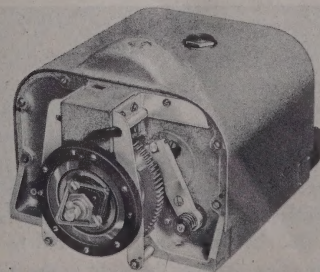

Fig. 77—Servo Unit Showing Long Pot Brackets
8. Figure 77 illustrates the new type of balance